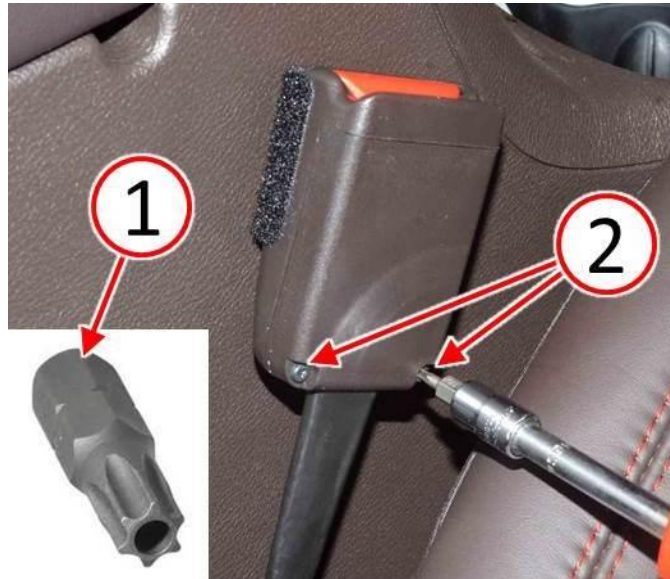

Fig. 8 Install Seatbelt Buckle Cover Screws
8. Using a T10 tamper resistant 6-point star driver (1), install the screws (2) (Fig. 8) and tighten the screws by hand to 0.3 N·m (2.9 in. lbs.).